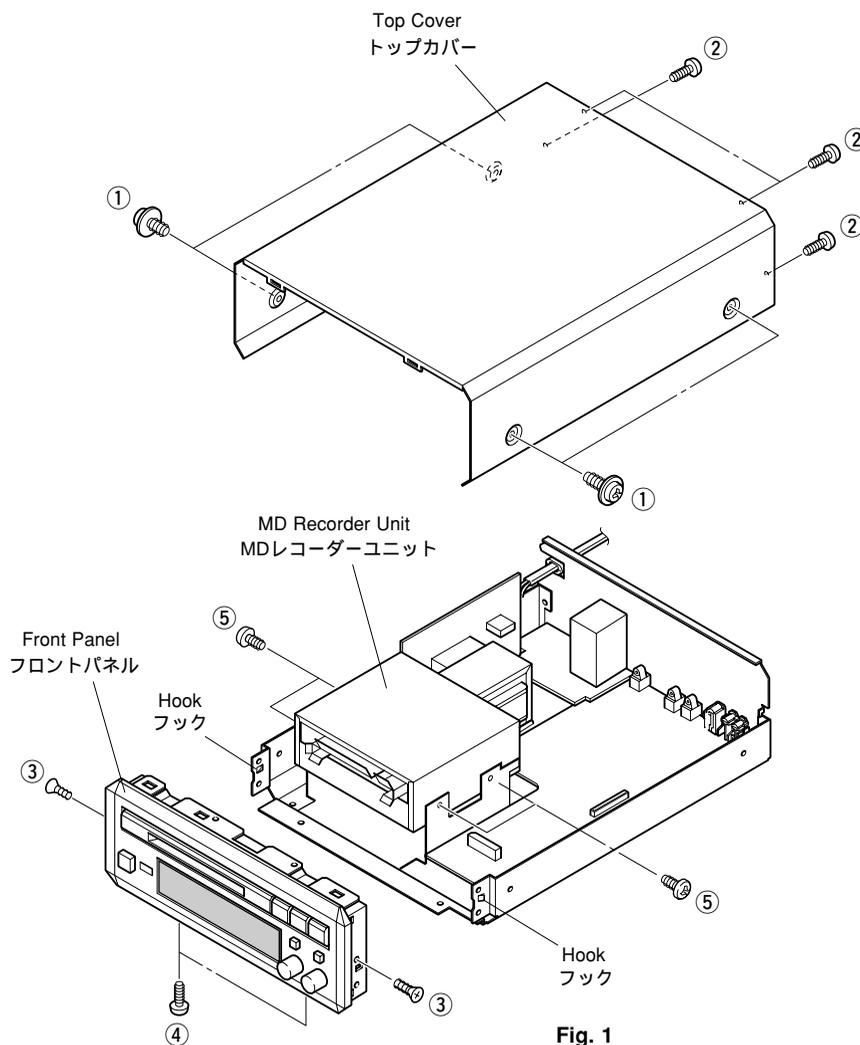

Fig. 1
Remove 4 screws (①) and 4 screw (②) in Fig. 1.
①のネジ4本と②のネジ4本を外します。(Fig. 1)
b. Remove 2 screws (③) and 2 screws (④) in Fig. 1.
b. ③のネジ2本と④のネジ2本を外します。(Fig. 1)
c. Detach the 2 hooks in Fig. 1 and then pull the Front Panel forward.
b. Remove 4 screws (⑤) in Fig. 1.
b. ⑤のネジ4本を外します。(Fig. 1)